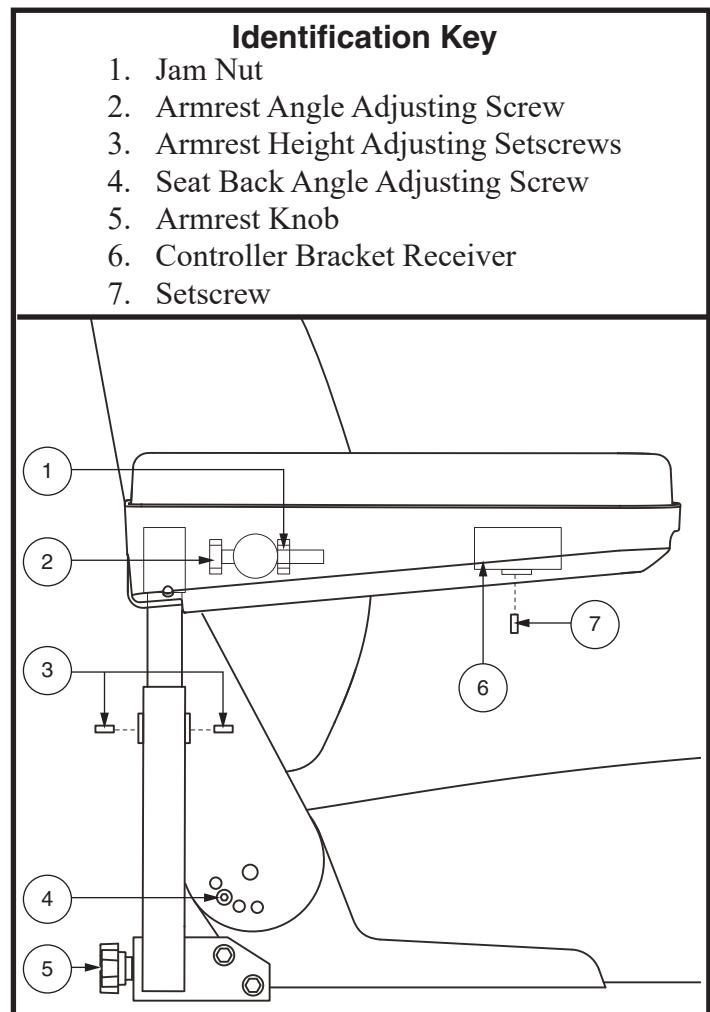

Figure 9. Seatback/Armrest Adjustment
1. Remove the adjusting screws from each seat hinge. See figure 9.
1. Locate the adjustment hardware on each side of the armrest receiver bracket. See figure 9.
2. Loosen the jam nut. See figure 9.
1. Loosen the setscrews on the armrest. See figure 9.
3. Loosen the setscrew on the controller bracket. **See figure 9.**
4. Flip up the armrest and loosen the setscrew. **See figure 9.**